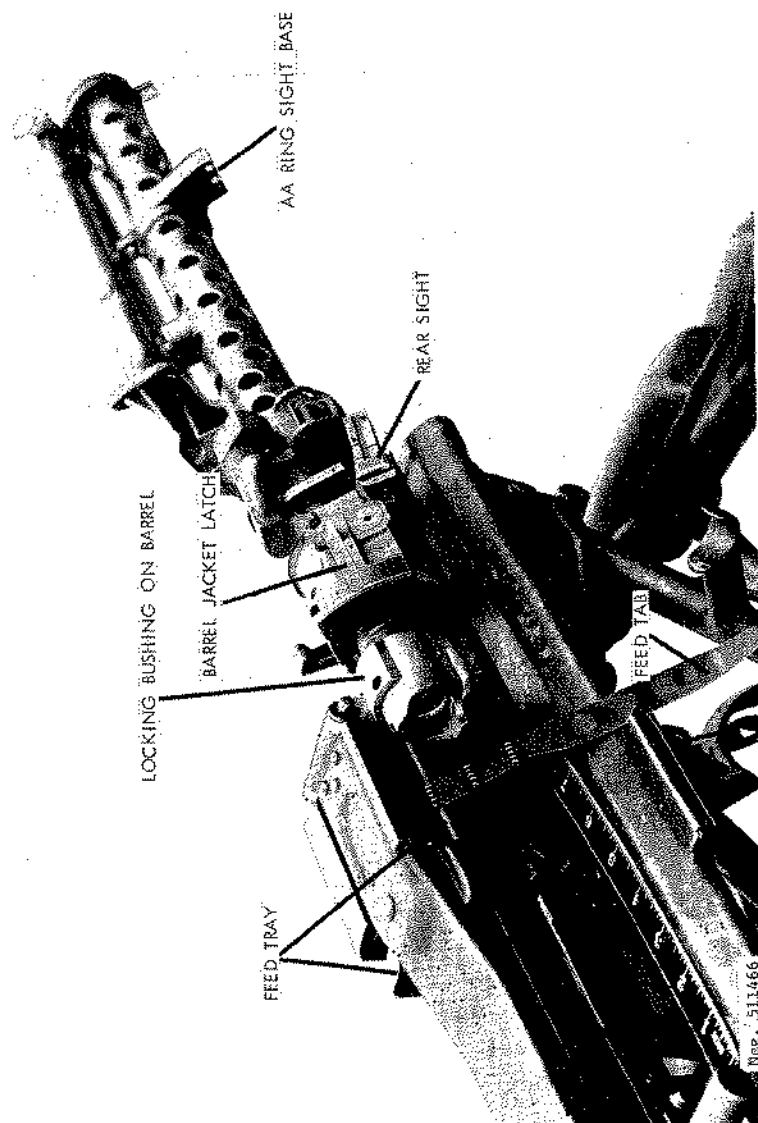

Figure 167. MG34 barrel change.
g. The high cyclic rate of fire causes the MG34 barrels to heat very rapidly, and provision is made for quickly changing the hot barrel for a cool one. To change barrels, pull the operating handle to the rear and, using gloves, press the barrel jacket latch (beneath the rear sight) (fig 167) and rotate the receiver counterclockwise in relation to the barrel jacket. Lower the butt, and the barrel will slide out of the jacket. **CAUTION:** It is hot—use gloves to handle it. Insert a cool barrel in the jacket, insuring that it is fully forward in the jacket. Swing the receiver over to the left, push the operating handle forward, and recommence firing.